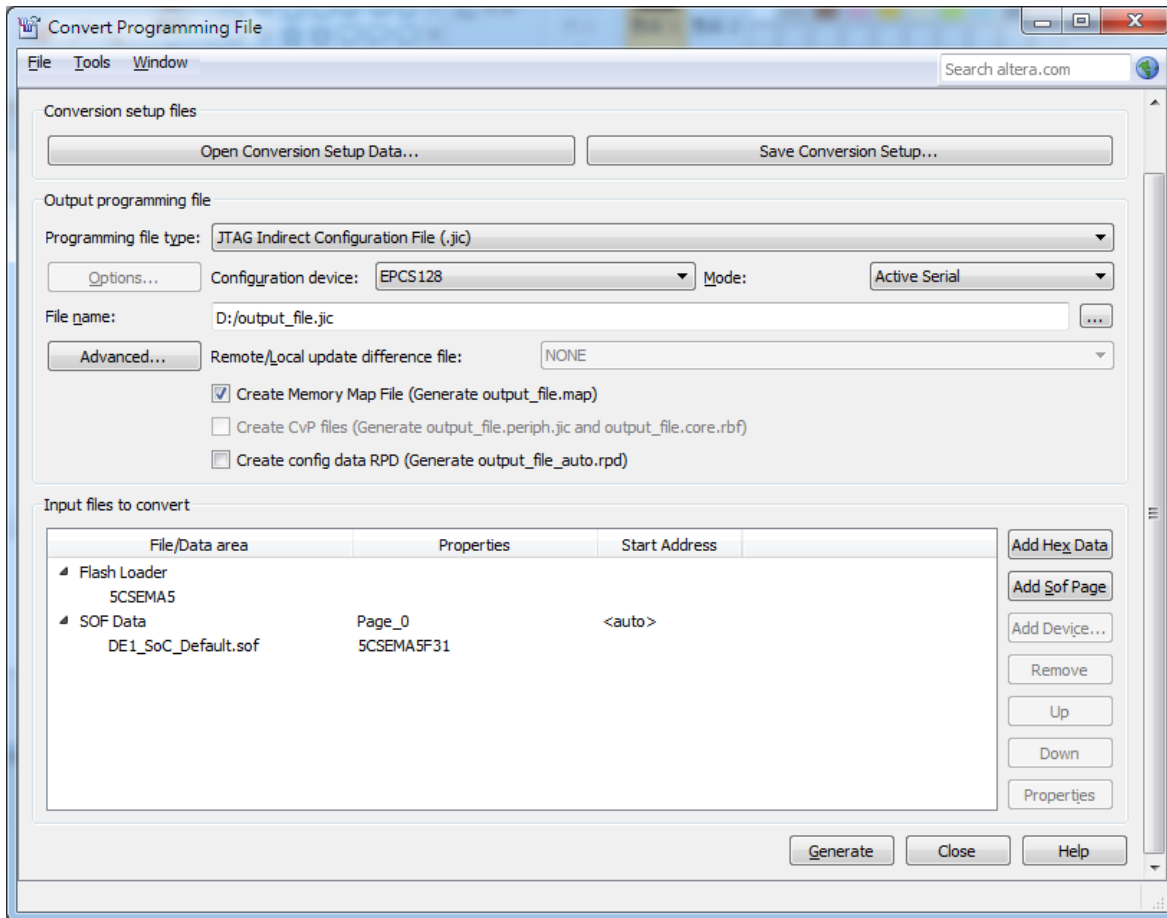

Figure 8-5 “Convert Programming Files” page after selecting the device
13. Click **OK** and the **Convert Programming Files** page will appear, as shown in **Figure 8-5**.